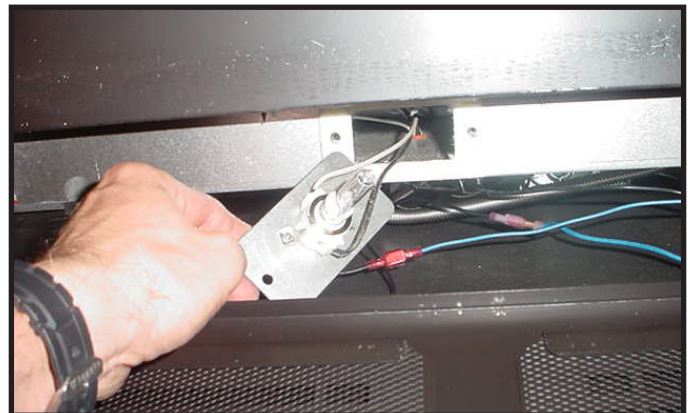

Figure 4.5 Replace Bulb
3. Pull the access panel to expose the light bulb. Wearing clean cotton gloves, replace the bulb. Any skin oils which get on a new bulb will greatly reduce the life of the bulb. The bulb can be cleaned with isopropyl alcohol. See Figure 4.5.